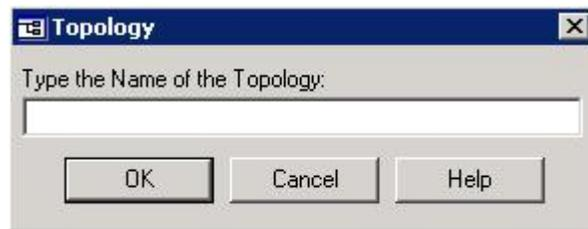

Figure 2.3 – Configuration of AssetView STANDALONE software
- 2) Insert a topology name and click “OK”. See Figure 2.3.